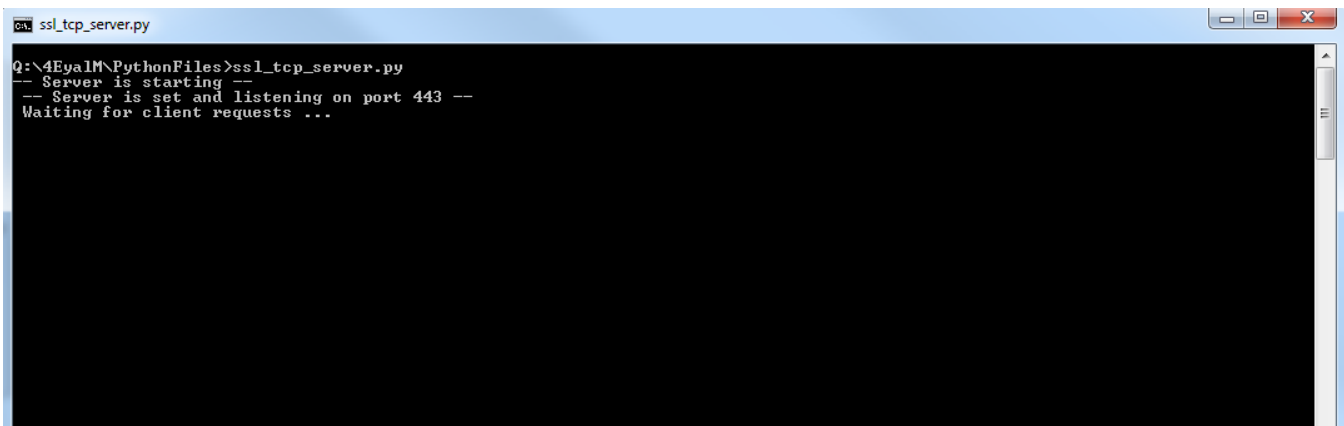

Figure 6. Running the Command
4. Open a command line terminal and run the script, as shown in Figure 6. Ensure that the PC is connected to the same AP as the SimpleLink™ device.